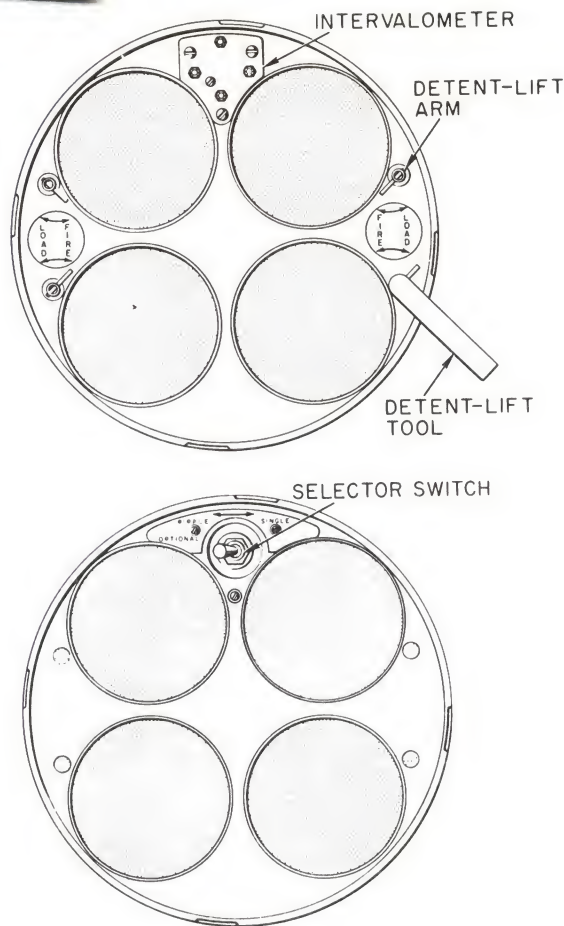

Figure 18 - Front and Back Views of Launcher.
A selector switch, figure 18, is located in the aft retainer ring of the launcher for preflight selection of either RIPPLE or SINGLE firing of the rockets through the intervalometer. The intervalometer is designed so that when single-fire is selected, the intervalometer fires one rocket on each ignition pulse from the aircraft. When ripple-fire is selected, the intervalometer converts the ignition pulse into ripple pulses and fires all the rockets at approximately 100-millisecond intervals. The firing circuit must be energized continuously for 0.5 second to assure a complete fire-out on ripple firing. When the intervalometer makes a complete four-round firing cycle, it automatically homes on the original, ZERO, starting point, and will not recycle without first de-energizing the circuit, and then re-energizing. The intervalometer contacts are arranged so that when the intervalometer is not energized, the rocket squib leads are shorted.
7. Set the selector switch, figure 18, of the launcher on RIPPLE-OPTIONAL position or on SINGLE position as indicated by the mission.